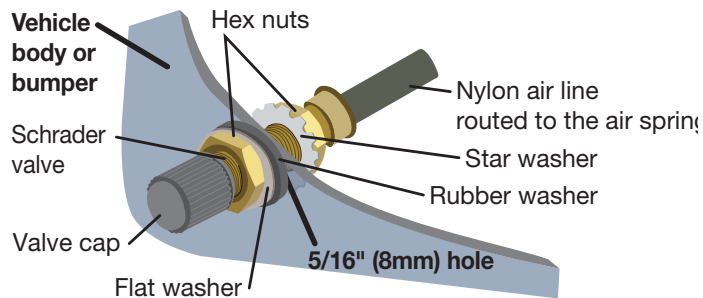

Fig. 17
2. Install the Schrader valve in the chosen location (Fig. 17).